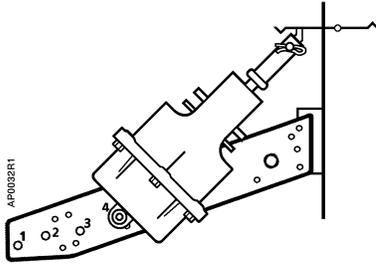

Figure 5. Frame Mounting, Normally Open Damper.
2. Attach Rocker 333-034 to blade in proper position for normally open or normally closed damper using 2 nuts, 041-230K, and 2 screws, 030-510J. See Figure 5 and Figure 6.
- a. Normally Open damper: attach the plate to the lug. Place the pivot post in Hole 4. See Figure 5.